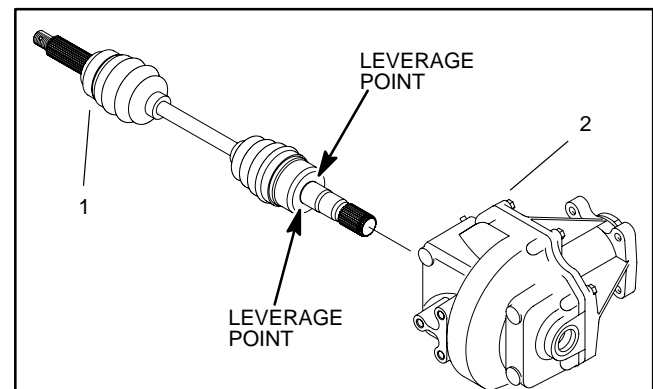

Figure 10
1. Remove wheel, stub axle (31) and axle housing (28) from the CV joint (15) and front suspension (see Front Wheel Bearing Service Disassembly).
2. Use two small pry bars (180° apart) to leverage the CV joint out of the front differential. Use even pressure on both pry bars (Fig. 10).
3. Inspect front wheel bearings (14) (see Front Wheel Bearing Service Inspection).
2. Insert end of CV joint into the front differential until a snap is heard. **Pull outward on CV joint as close as possible to the front differential to make sure that the CV joint is properly snapped properly into place (Fig. 10).**
3. Reassemble axle housing (28), stub axle (31), and wheel to the CV joint (15) and front suspension (see Front Wheel Bearing Service Assembly).